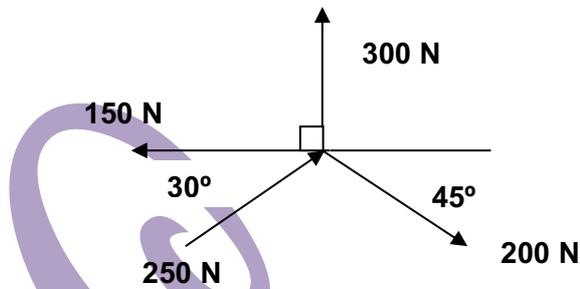

FIGURE 3
3.2 Solve analytically the magnitude and direction of the resultant in FIGURE 3 below.